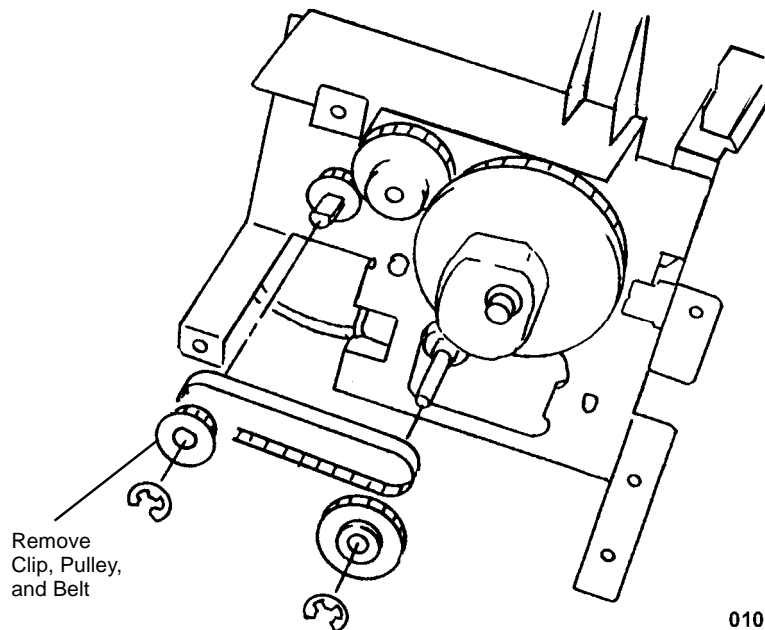

Figure 1 Removing the Belt
3. Remove the Belt (Figure 1).